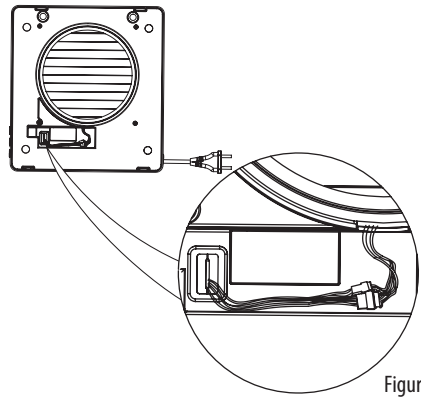

Figure 11
10. Tidy the wiring (Figure 11).